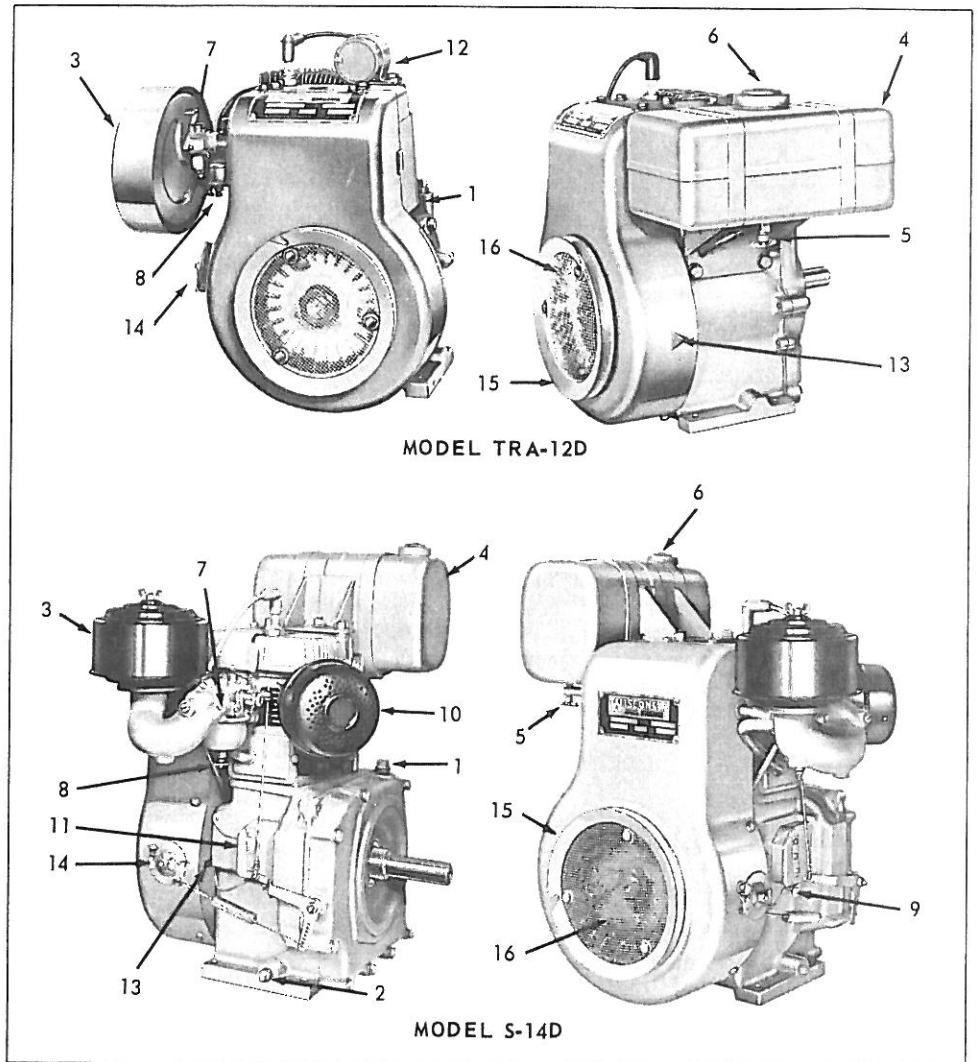

Fig. 14, ENGINE REFERENCE VIEWS
**AIR CLEANER - DRY TYPE, Fig. 14, Ref. 3**
This is the standard ignition system for Model S-14D and is identified by the breaker box on the right hand side of the crankcase, Fig. 14, Ref. 11. Refer to page 3 for Timing.